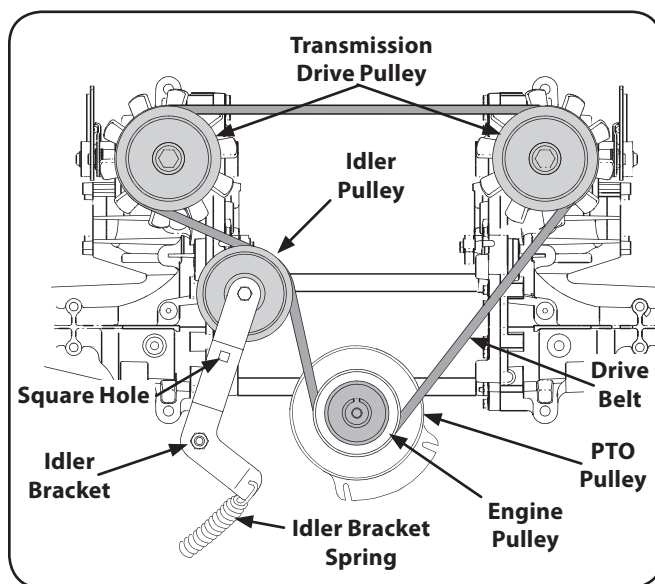

Figure 7-9
- From beneath the rear of the tractor, insert a $\frac{3}{8}$ " drive ratchet into the square hole of the drive idler bracket. See Fig. 7-9.